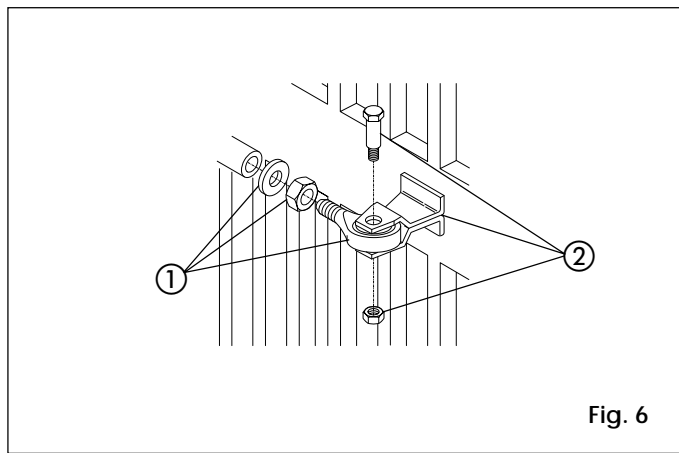

Fig. 6
- 3) Screw the front bracket half-way onto the rod (1, Fig. 6) and secure with the nut provided.
- 7) Fit the front bracket onto the rod as shown in Fig. 6, ref. 2.